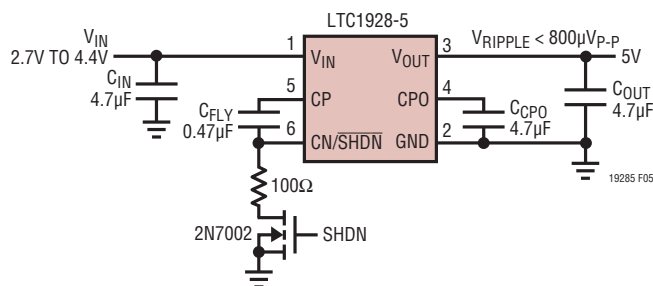

Figure 5. Low Noise 5V Supply with Shutdown
**Shutdown to Enable Timing (Figure 5)**
**Enable to Shutdown Timing (Figure 5)**